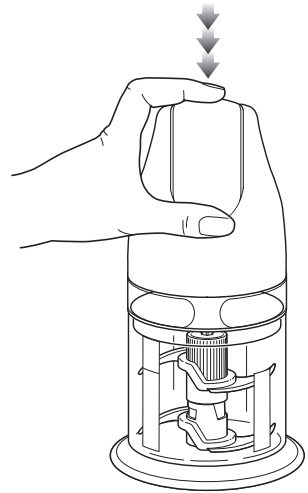

Fig. 5
- 7 To start the appliance, plug the power cord into the electrical outlet, securely hold Power Head while operating and press on the on/off pulse button located on the top of the Power Head. (fig. 5)